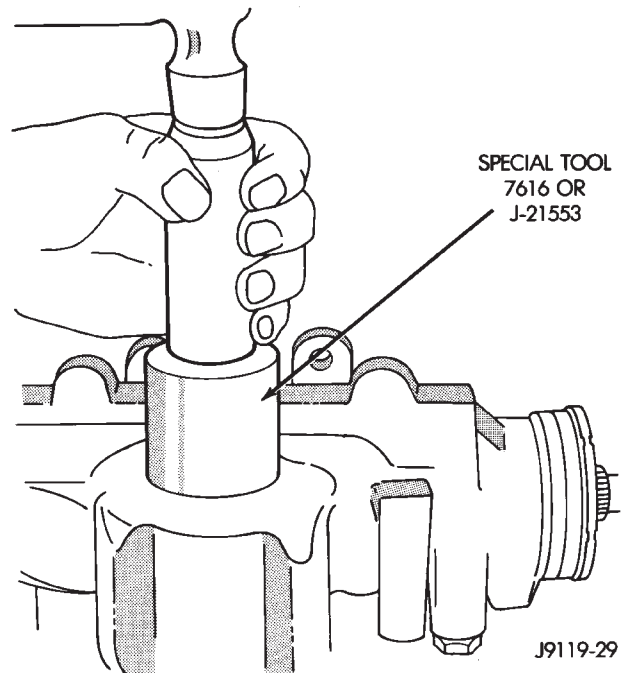

Fig. 3 Pitman Shaft Seal Installation
- (1) Install single lip seal with Installer or a suitable size deep socket (Fig. 3).
- (2) Coat the double lip seal and washer with grease.
- (3) Install the backup washer.
- (4) Install the double lip seal.
- (5) Install the backup washer.
- (6) Install the retainer ring with snap ring pliers.
- (7) Center the steering gear.
- (8) Install the pitman arm. Refer to Pitman Arm Installation in Steering Linkage.